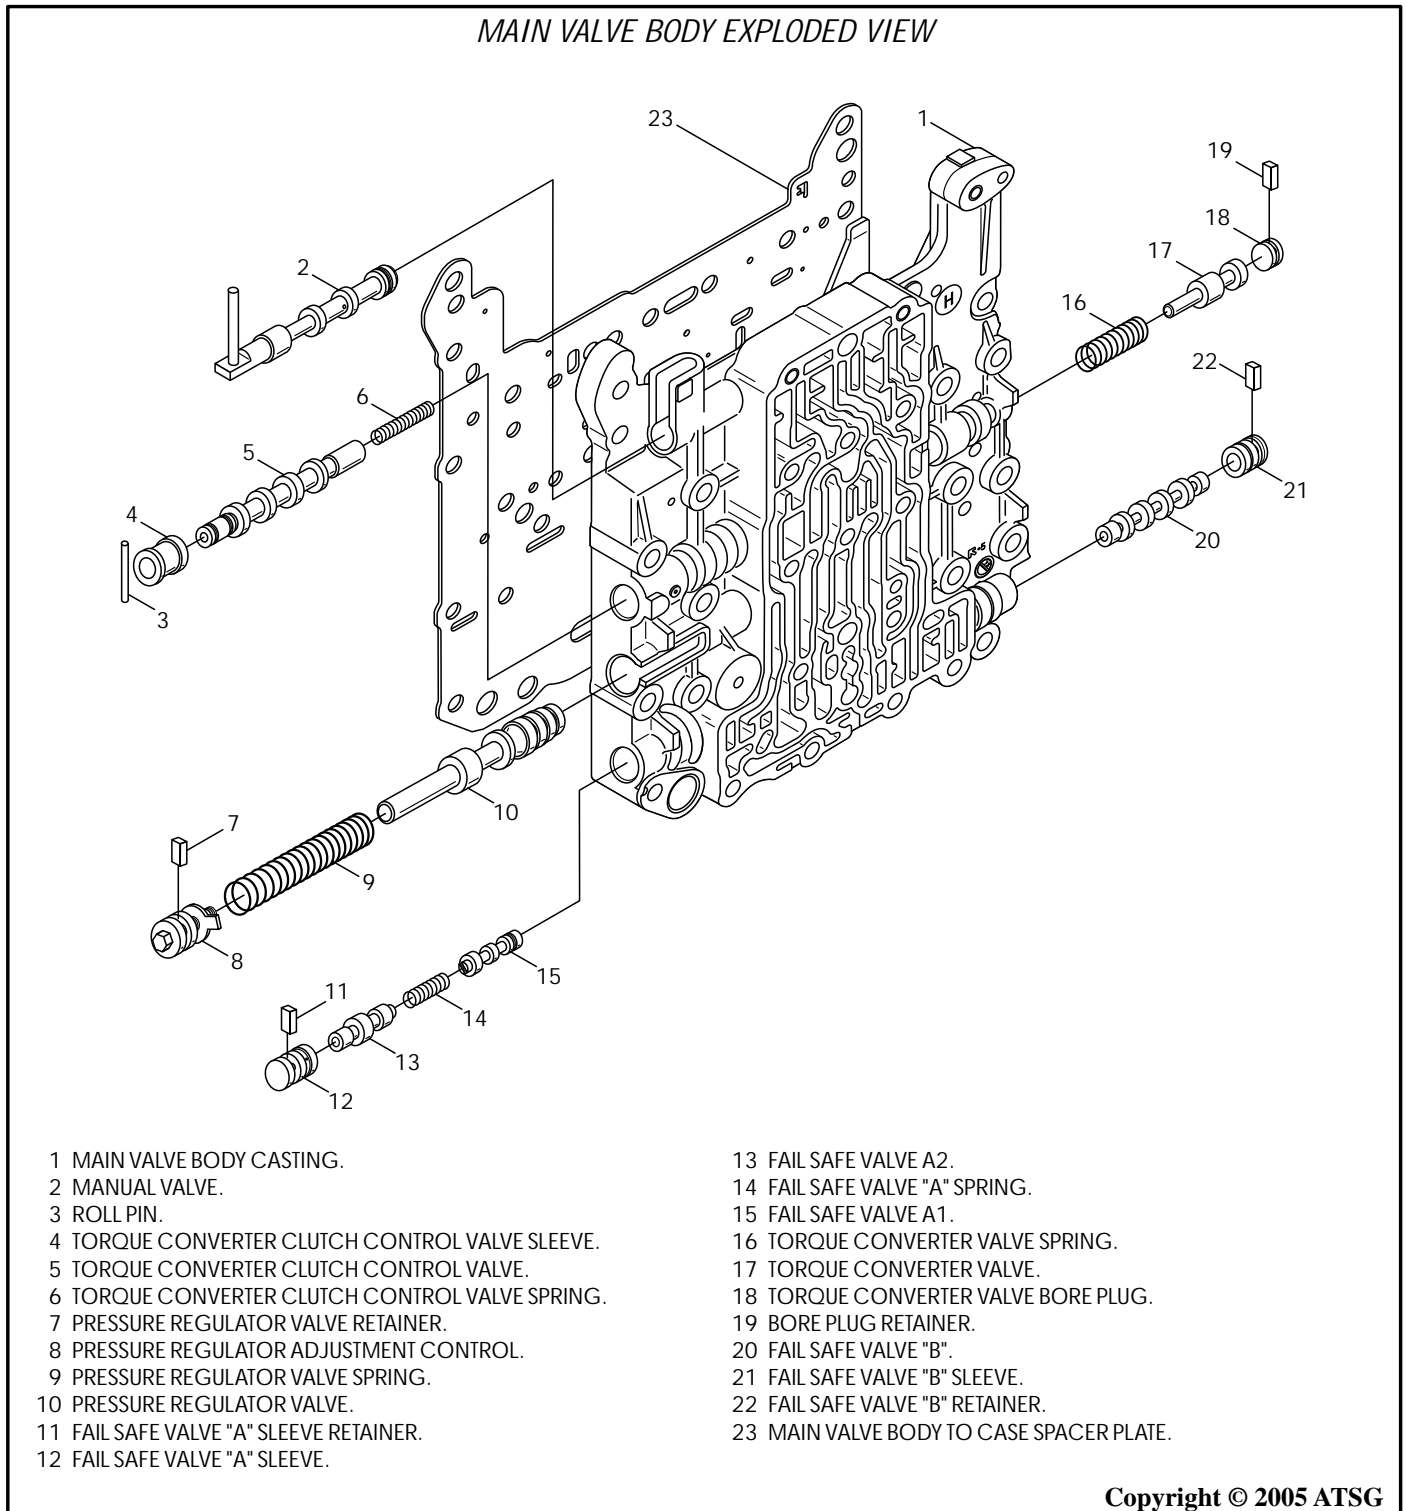

Figure 142
7. Disassemble main valve body and place valves, springs, retainers in appropriate trays exactly as they were removed (See Figure 142).
9. Assemble the main valve body parts *exactly*, as shown in Figure 142, and lube with ATF as they are installed.